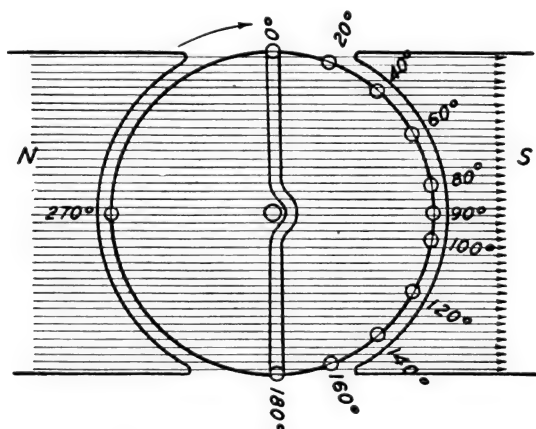

Fig. 9. Diagram Showing Variations in Number of Lines of Force Cut During a Revolution of an Armature Conductor
**Variations of E.M.F. in One Revolution.** The value of the e.m.f. in the loop does not remain constant, but changes in value as the position of the loop in the magnetic field changes, the reason being that the velocity of the sides across the magnetic lines of force for a certain constant angular rotation of the loop is continuously varying in value. This can be proved easily by counting the number of fine lines the loop or conductor crosses in Fig. 9 when moving from
The number of lines crossed as the conductor or loop rotates from 180° through 270° to 360° is the same as 0° to 180°. You could make Fig. 9 very large in size and draw many fine lines and get more accurately the number of lines crossed in different parts of a revolution. In fact, you could determine the number of lines of force crossed